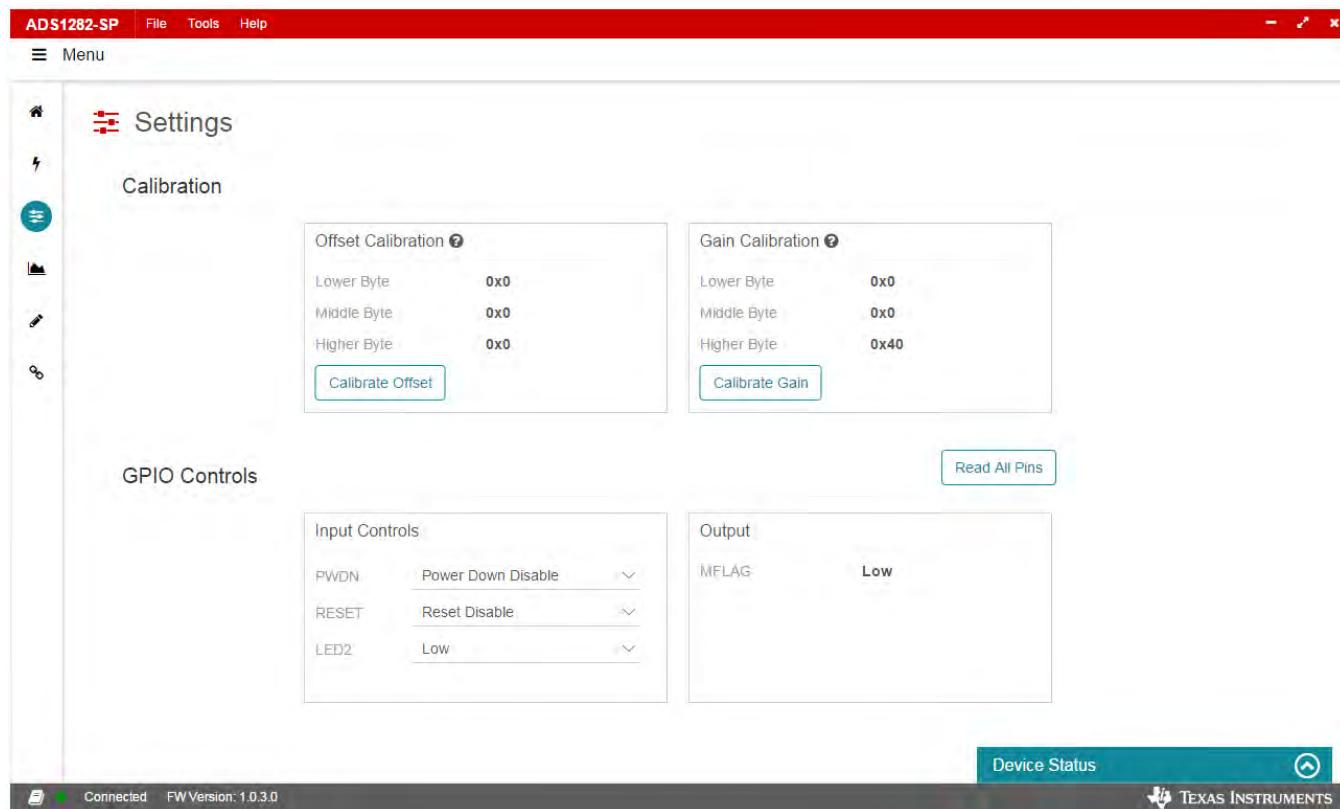

Figure 27. ADS1282-SP GUI Settings Page
The **Settings** page consists of two sections: (1) **Calibration** and (2) **GPIO Controls** as shown in Figure 27.